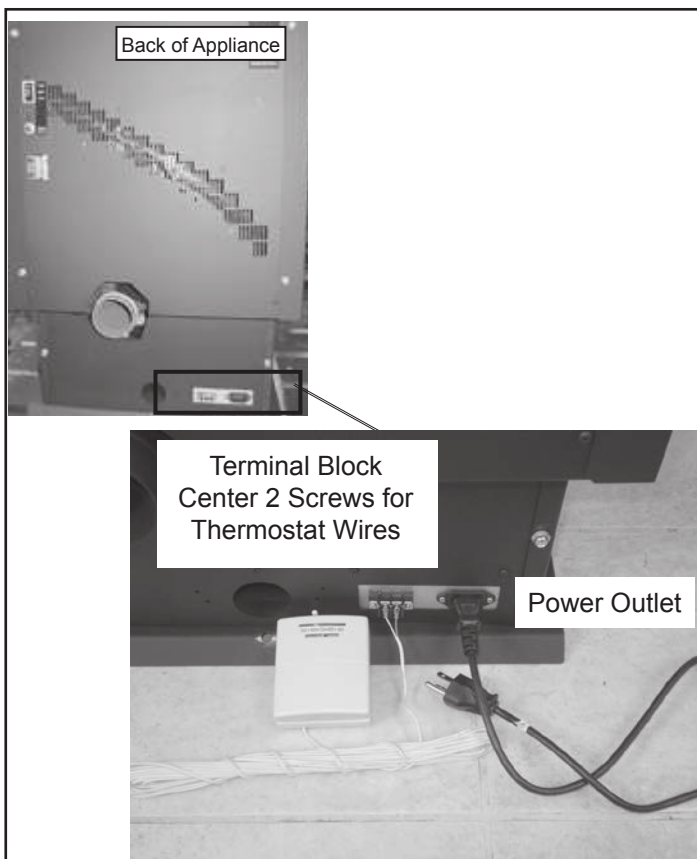

Figure 23.1
3. There is a 4 screw terminal block located on the back lower left corner of the stove directly above the power cord inlet. The center 2 screws are for the thermostat wires. **Figure 23.1.**